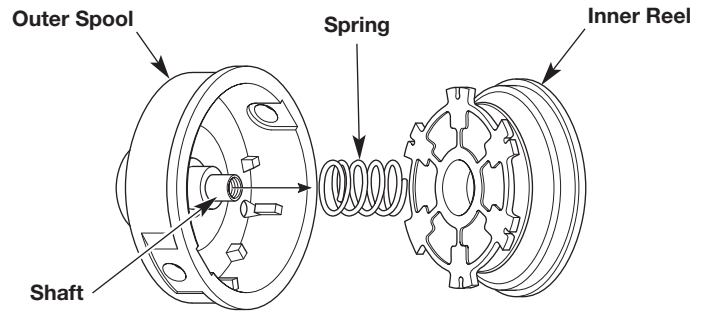

Fig. 16
3. Remove the inner reel from the outer spool (Fig. 16).
4. Remove the spring from the inner reel (Fig. 16).